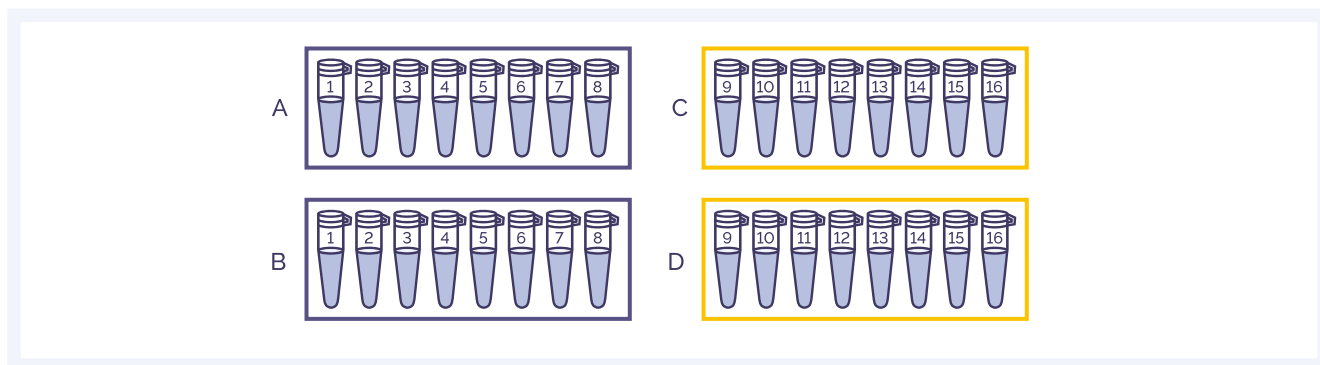

Figure 3: Recommended configuration for 16 samples. A/B and C/D indicate replicate strips and numbers indicate unique sample numbers.
Recommendation: prepare the samples as shown in Figure 3. This format will minimise pipetting steps during the Adapter ligation step.
- ❄️ 4. Label two new sets of PCR strip-tubes for each sample as shown in Figure 3 and place on ice.